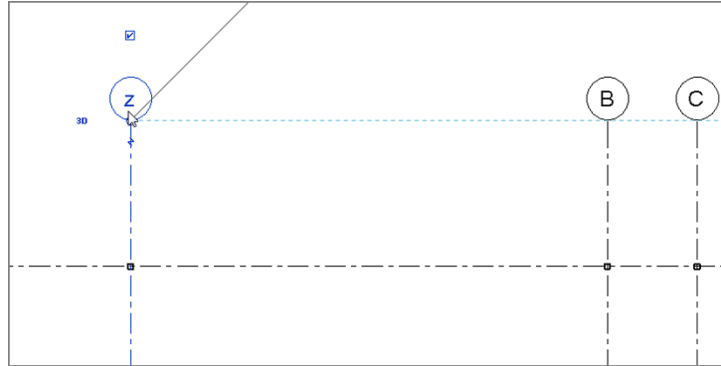

FIGURE 20.10: Renaming grid A
3. Open the Level 1 structural view; and rename grid A to z, as shown in Figure 20.10.